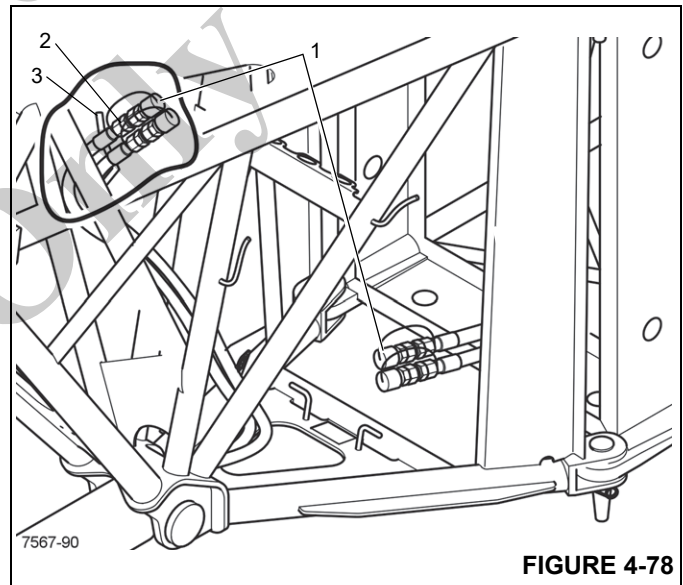

FIGURE 4-78
2. Install protective caps (1) (Figure 4-78) on the hose ends.